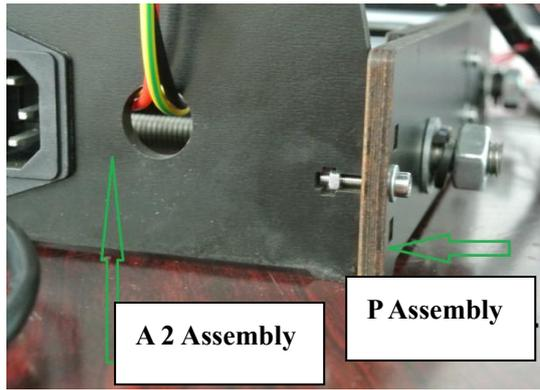
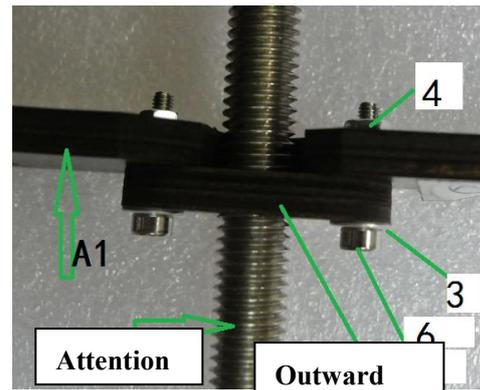

Figure 18
Figure 19
Align the holes of P assembly with the holes of previously installed main structure. Then fix the two and install P assembly to the main structure as shown in figure 18. Then follow figure 19 to install the bottom of P assembly to the A1 assembly. Next connect motor to the port 12 of motherboard with short cable ⑲. Connect the bottom heating cable to the port 2 of motherboard. Connect the temperature sensor cable of bed to the port 22 of motherboard. Connect the stopper(blue)cable port to the port 17 of motherboard.